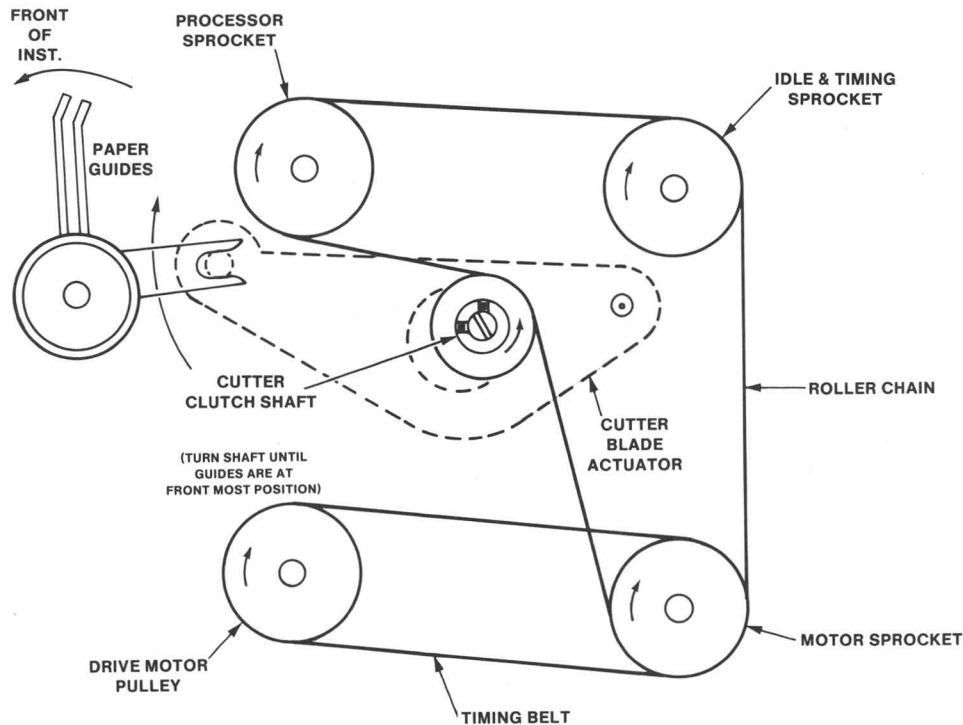

Figure 4-12. Cutter Actuator Adjustment.
3. Figure 4-12 illustrates the adjustment. Turn the actuator cam shaft until the actuator is at the top of its travel. Tighten the two setscrews, clamping the cutter clutch onto the shaft at that position.